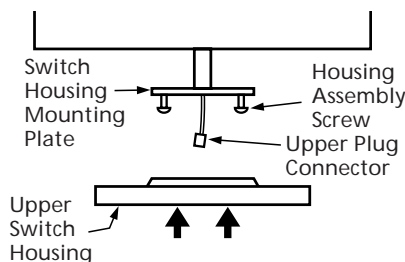

Figure 7a - Attaching Upper Switch Housing to Switch Housing Mounting Plate
1. Partially install two #6-32 x 3/8" housing assembly screws into the switch housing mounting plate as shown in Figure 7a.
2. Feed the upper plug connector through the center opening of the upper switch housing. See Figure 7a.